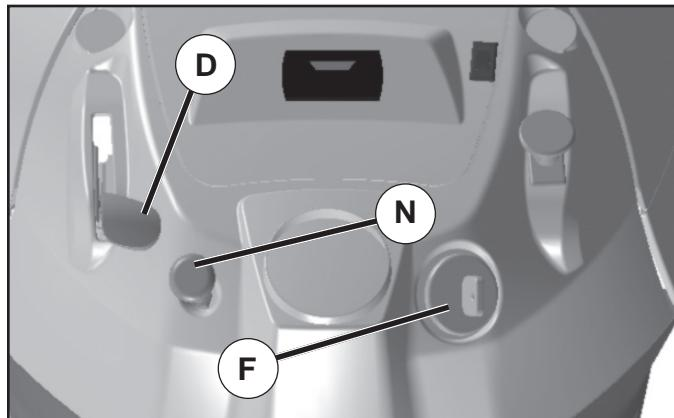

Fig. 19
- Move throttle control (D) between half and full speed (fast) position.
- Turn ignition key (F) to "STOP" position and remove key. Always remove key when leaving tractor to prevent unauthorized use.
### TO USE THROTTLE CONTROL (D)(See Fig. 19)
### TO USE CHOKE CONTROL (N) (See Fig. 19)